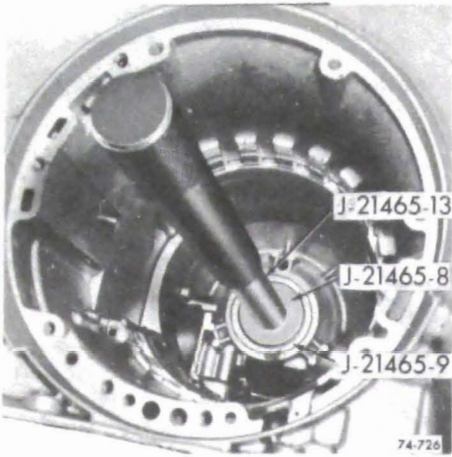

Figure 76-726
b. Using Adapter J-21465-9 on J-21465-8 install new bushing into case, until .040" - .055" above selective thrust washer face. See Figure 76-726.